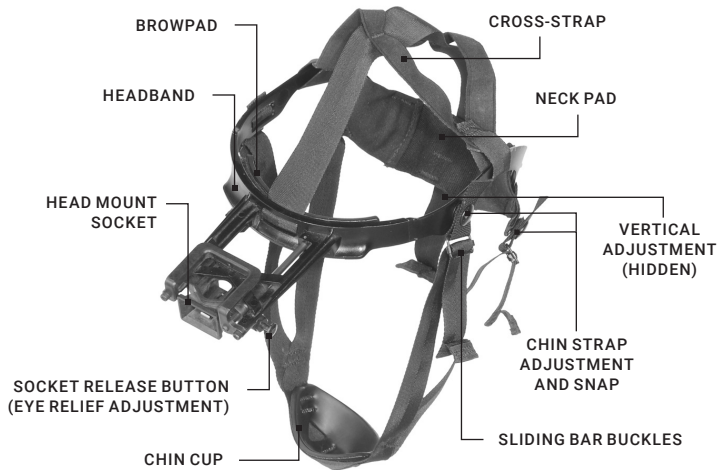

FIGURE 2-6. PVS-7 HEAD MOUNT ADJUSTMENTS
1. Before putting the head mount on, loosen the four chin straps so the ends of each strap are approximately two inches from the sliding bar buckles (see Figure 2-6).
Before attaching the goggles to the helmet, and to make it easier to align the eyecups and diopter eyepieces with your eyes, press down on the socket-release button (Figure 2-6) and slide the head mount socket completely forward.
3. Align the PVS-7's latch (Figure 2-1) to the head mount socket (See Figure 2-6). Hold the latch lever down and install the goggles onto the socket of the head mount. Once the goggles are fully installed, release the latch.
7. To adjust the head mount vertically, tighten/loosen the vertical strap assembly (Figure 2-6). The PVS-7 should be properly aligned with your eyes.
10. Adjust the eye relief distance by pressing the socket release button (Figure 2-6) and sliding the PVS-7 forward and backward until you can observe the full field of view. Adjust the diopter rings for the sharpest, clearest image.